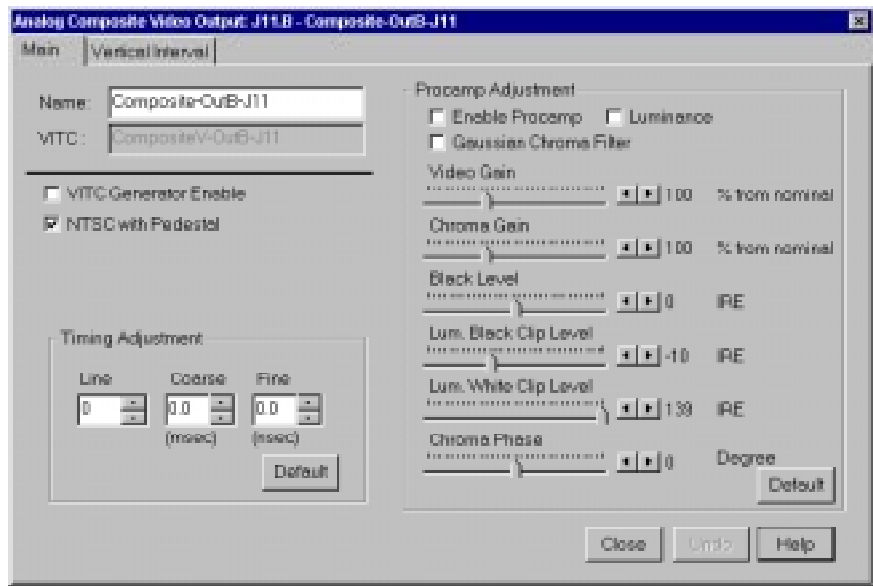

Figure 21. Analog Composite Video Output dialog box
1. Select **Video Output** from the configuration tree and click or double-click an analog composite output from the list, such as *Composite-OutA-J11*. The Analog Composite Video Output dialog box appears (see Figure 21).